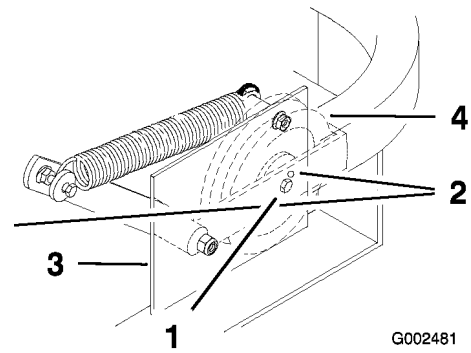

Figure 52
Important: Check and make sure the belt is installed into both the front and rear belt guides (Figure 52).
4. Check the belt tension. The spring loaded idler center bolt needs to be near the top alignment hole in left support plate (Figure 52).